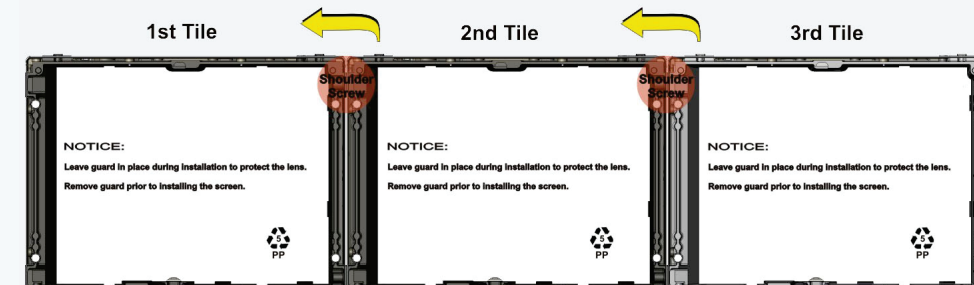

Figure 2 Assemble the First Row of MicroTiles
- Position the second tile in-line with the first (Figure 2).
- Insert a horizontal adjustment screw into the mounting points between the first 2 tiles (Figure 2). Use a 5mm hex key to tighten the screw. DO NOT completely tighten until the entire row is complete to allow for adjustments. **NOTICES:** 1) Horizontal adjustment screws are not mandatory, but are recommended in order to achieve optimal horizontal alignment. 2) For optimal positioning and alignment of the first row, use the leveling feet (accessories). Refer to the *Christie MicroTiles User Manual (P/N: 020-100329-xx)*.